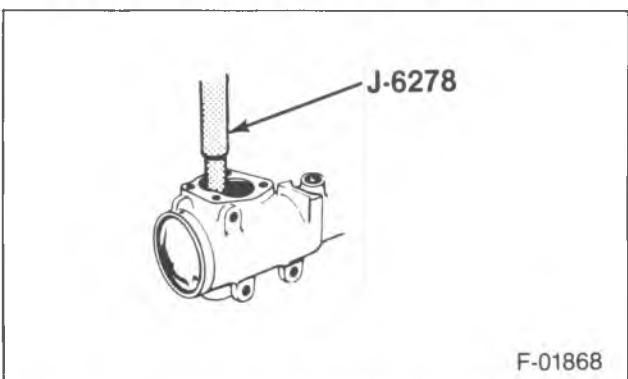
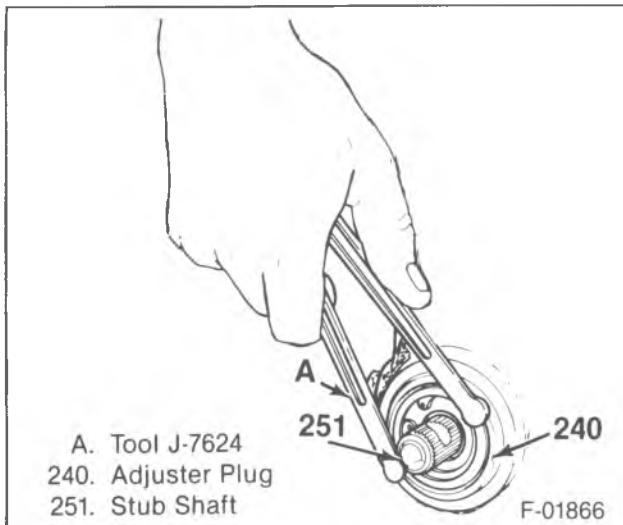

Figure 5—Removing the Pitman Shaft Bearing
Figure 6—Removing the Adjuster Plug
6. Pitman shaft (221). Turn the stub shaft (251) to the left until the pitman shaft teeth (221) and rack piston (214) disengage.
7. Retaining ring (205) with J 4245.
8. Washers (207) and seals (208) using a screwdriver.
9. Bearing (209). If necessary, use tool J 6278 (figure 5).
10. Rack piston (214) and balls (213).
- Insert tool J 21552 into the rack piston bore with the pilot of the tool seated into the end of the worm (248).
- Hold the tool against the worm and turn the stub shaft to the left. The rack piston (214) will be forced onto the tool.
11. Adjuster nut (245).
12. Adjuster plug (240) using J 7624 (figure 6).
- Retaining ring (244) using J 4245.
- Washer (243), seal (242) and bearing (241).